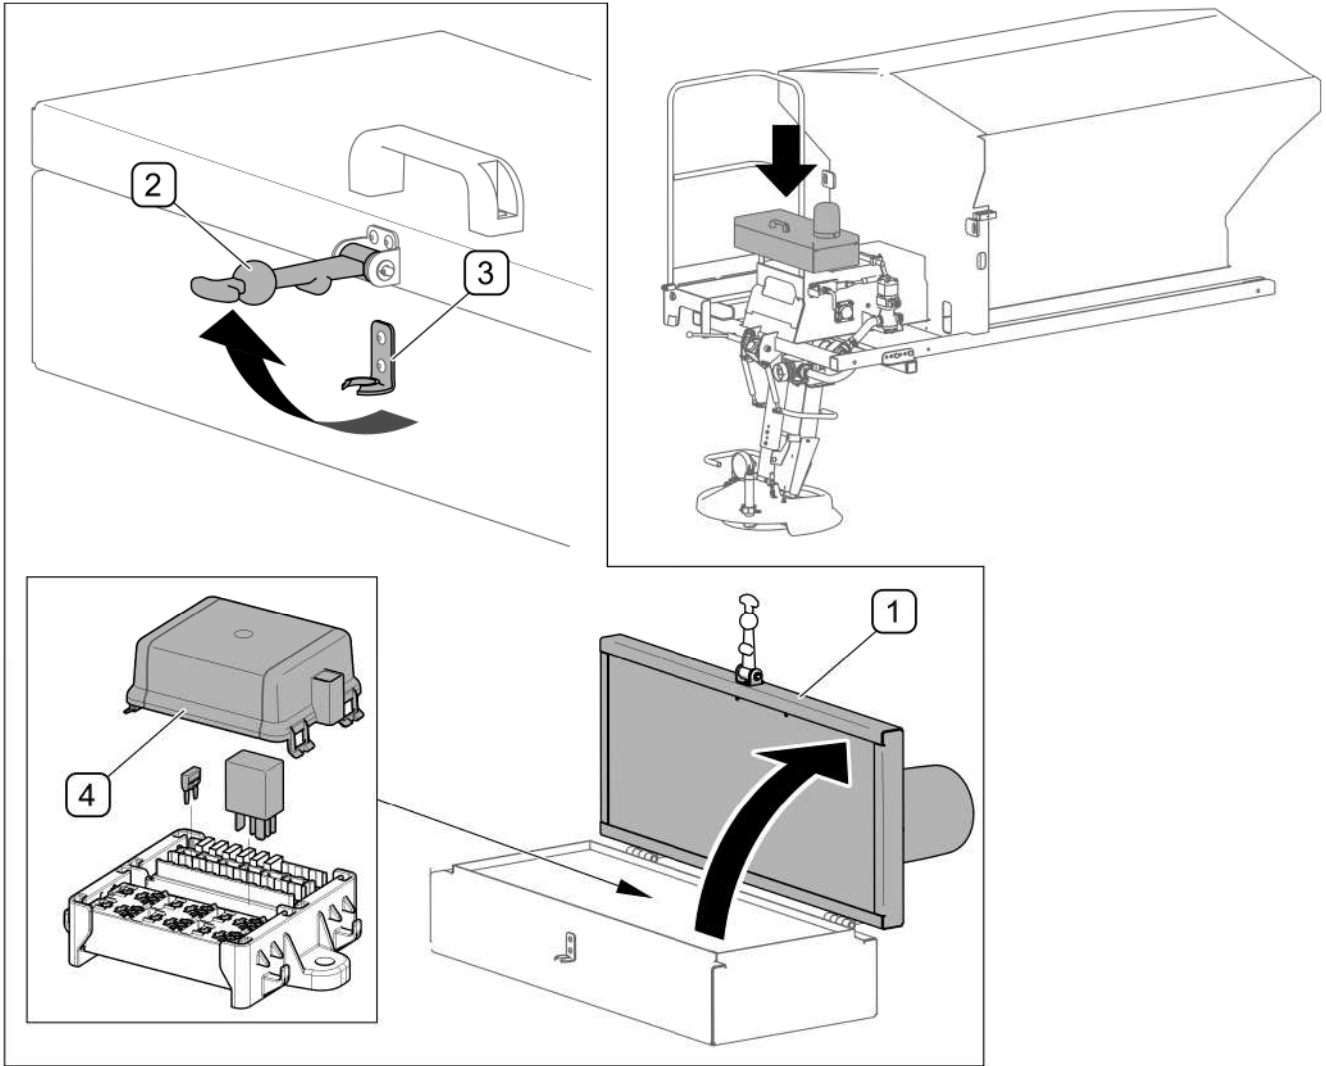

FIG. 5.1 Location of fuse box
In case of electrical system failure, check fuses located under cover (1) at the rear of the sand spreader (FIG. 5.1). Open cover (1) by removing rubber protection (2) from catch (3). Fuses and relays are located in a holder under small cover (4). Remove a blown fuse from the holder and replace it with a new one. List of fuses is shown in 0